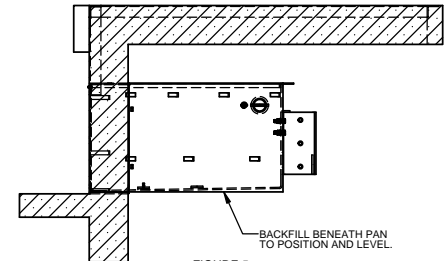

FIGURE 5
- MAKE SURE THE TOP FLANGE OF PAN IS LEVEL IN ALL DIRECTIONS AND FLUSH WITH FRONT OF LEVELER PIT FLOOR (SEE SHEET 2, FIGURE 5).